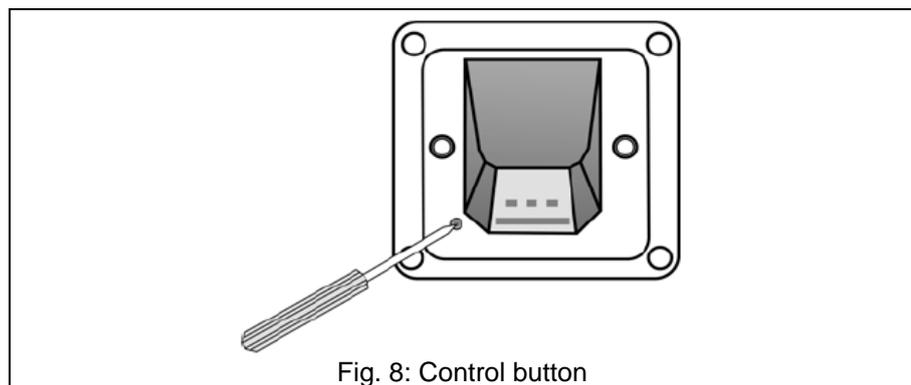

Fig. 8: Control button
- Press the button with a pointed object for as long as the switching output is to be active (Fig. 8).